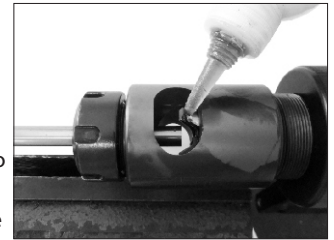

Fig.1-13
13. Apply cutting oil^① onto the cutting blades through the housing window, keeping the blades thoroughly lubricated, which helps to make cutting smoother and extend the life of the cutter head. (Fig.1-13)